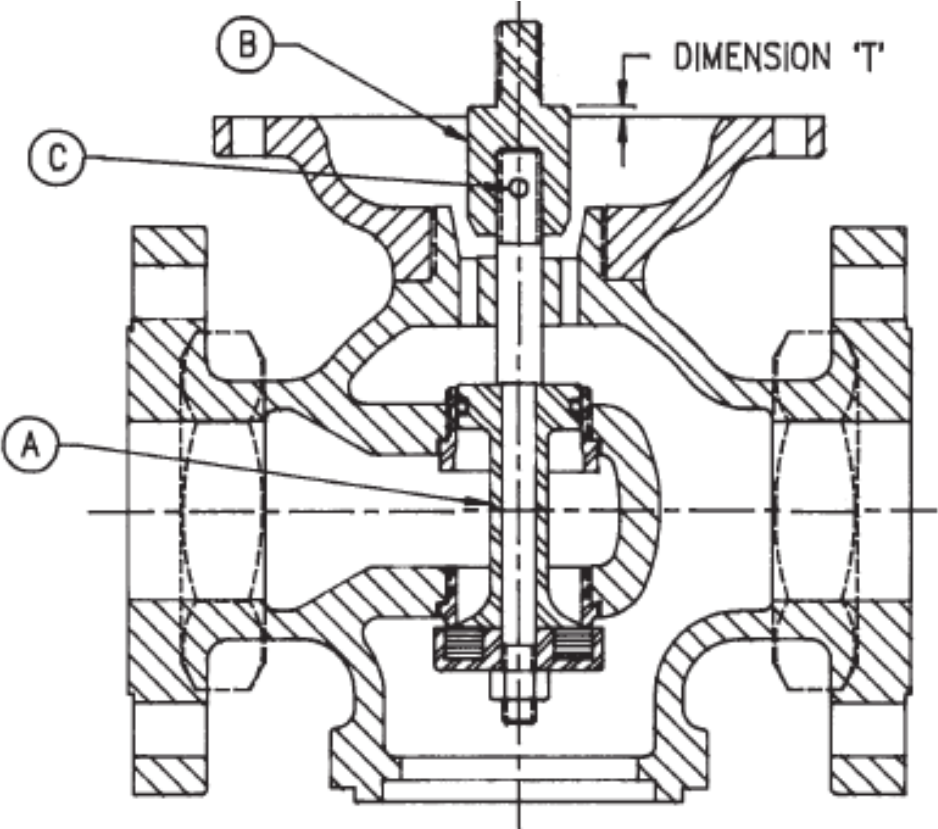

Figure 2. Type D34 Pressure Reducing Valve Setting
Valve Setting (Refer to Figure 2)
1. Insert stem assembly (A) and hold disc on seat ring in closed position, as shown in Figure 2.
2. Screw stem coupling (B) on stem until travel setting T is reached.
3. Remove stem assembly (A) and lock setting by drilling hole and inserting dowel pin (C).